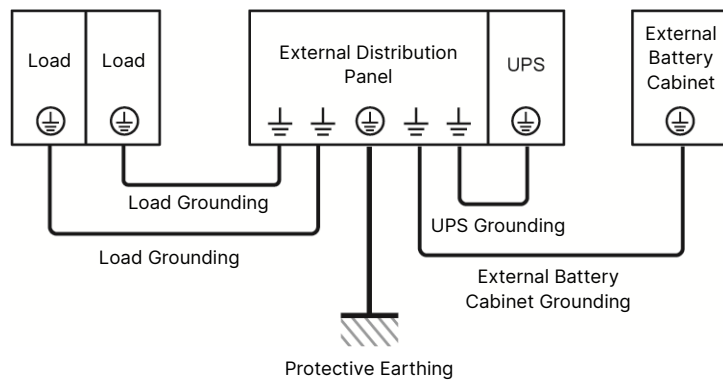
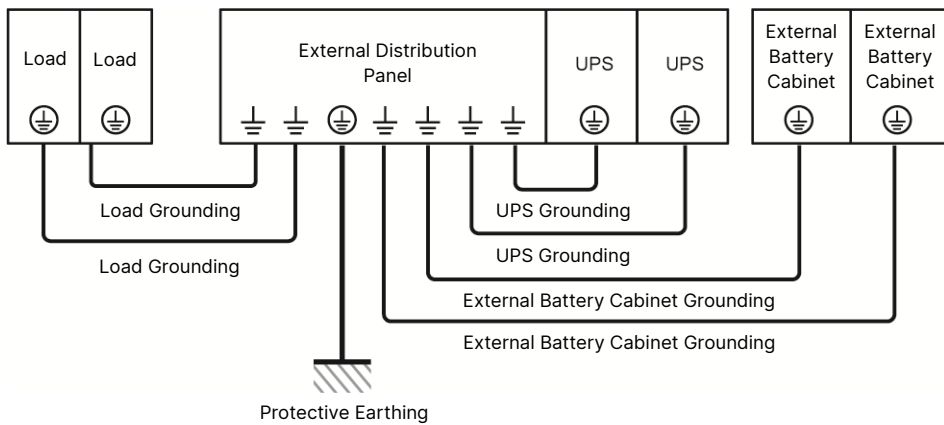

Figure 5-14: Grounding Diagram_ Single Unit
Figure 5-17: Grounding Diagram_ Parallel Units
Follow **Step 10** mentioned in **5.4.3.1 Single Input (Single Unit)** and refer to **Figure 5-14** to ground the UPS, external battery cabinet(s) and connected critical loads.
For single input, follow **Step 1 ~ Step 10** mentioned in **5.4.3.1 Single Input (Single Unit)**. As for the grounding diagram, please refer to **Figure 5-14** rather than **Figure 5-17**.
For dual input, follow **Step 1 ~ Step 4** mentioned in **5.4.3.2 Dual Input (Single Unit)**. As for the grounding diagram, please refer to **Figure 5-14** rather than **Figure 5-17**.
- For the external battery cabinet's grounding information, please refer to **Figure 5-14** and **Figure 5-17**.